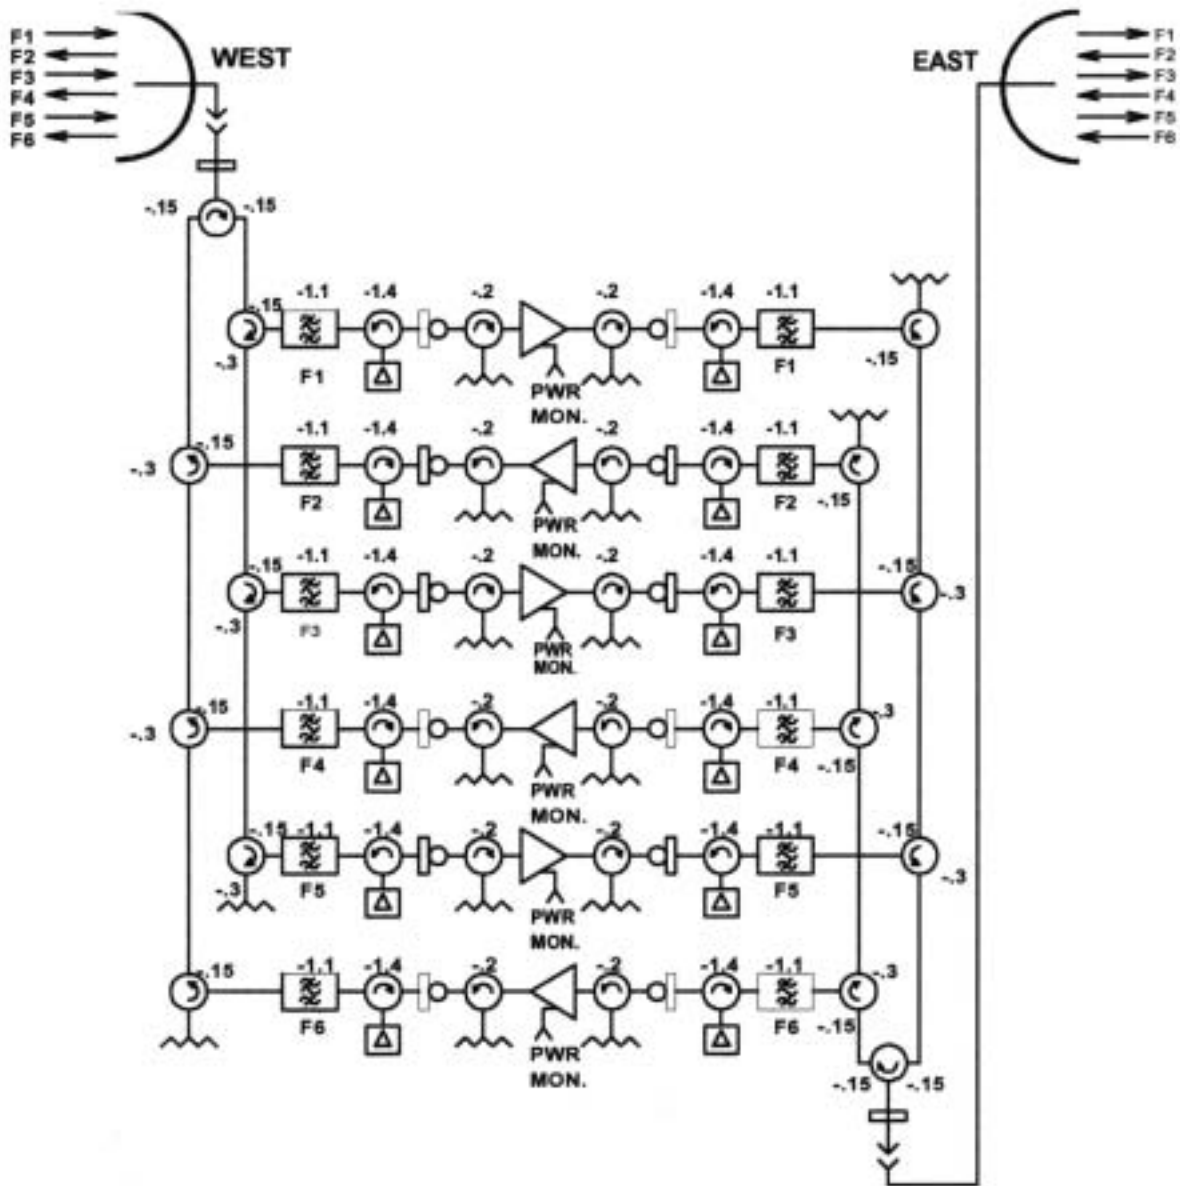
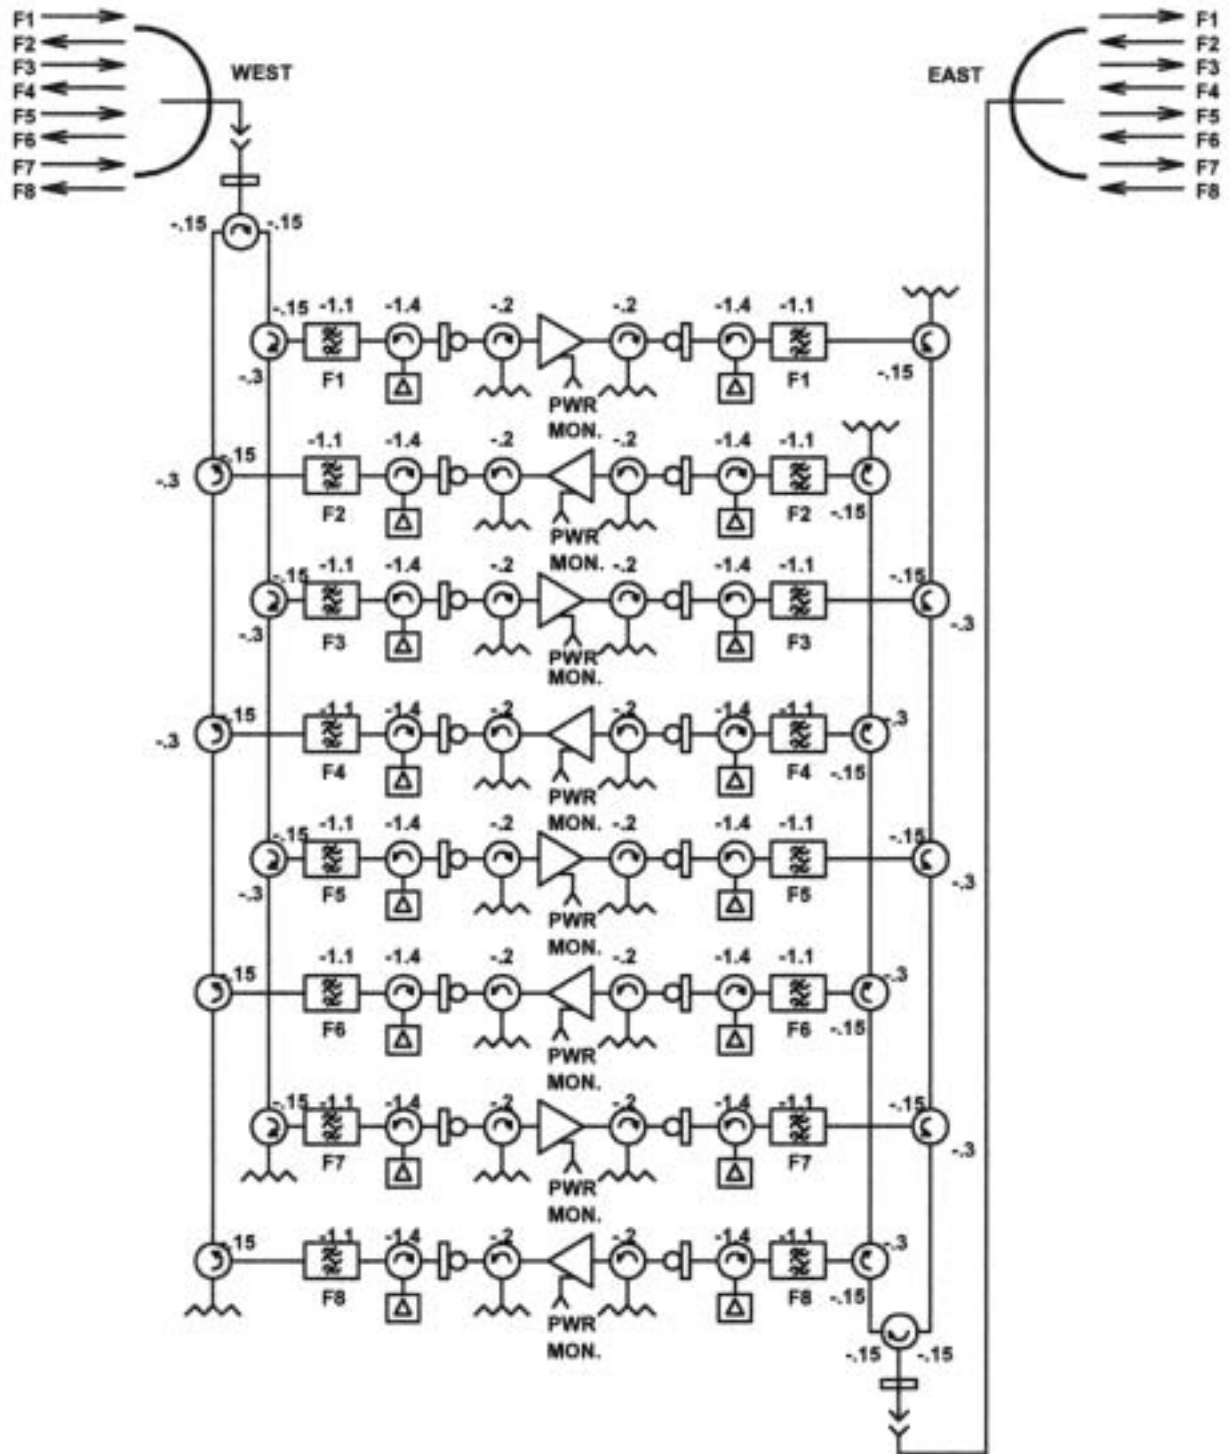

Figure 8. RF-7000E, -15, -35, -55, (2+1, Equalized)
Figure 9. RF-7000E, -16, -36, -56, (3+1, Equalized)
- The RF-7000E duplex repeater uses internally redundant amplifiers for transmission in each of two directions. Each amplifier is powered by two separate battery supplies for added reliability. Bandpass filters and circulators that form a duplexer network direct the received signals to the amplifiers and combine the amplifier outputs with the received signals to a common antenna port for transmission in each direction (see Figure 3 through Figure 8). Dual polarized antenna ports repeaters are available (see Figure 9).
- There is a field-adjustable potentiometer on the amplifier (shown in Figure 9). The repeater output level and nominal gain is adjusted by AGC/ALC potentiometer.